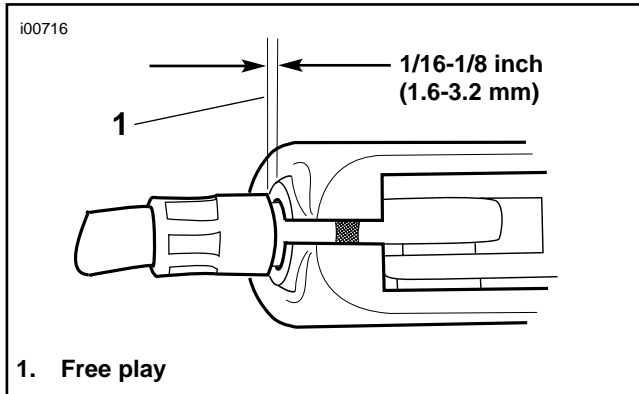

Figure 6. Clutch Cable Adjustment
- e. See Figure 6. Turn cable adjuster away from jam nut until slack is eliminated at hand lever. Pull clutch cable ferrule away from clutch lever bracket to check free play. Turn cable adjuster as necessary to obtain 1/16 to 1/8 inch (1.6-3.2 mm) free play (1) between end of cable ferrule and clutch lever bracket.